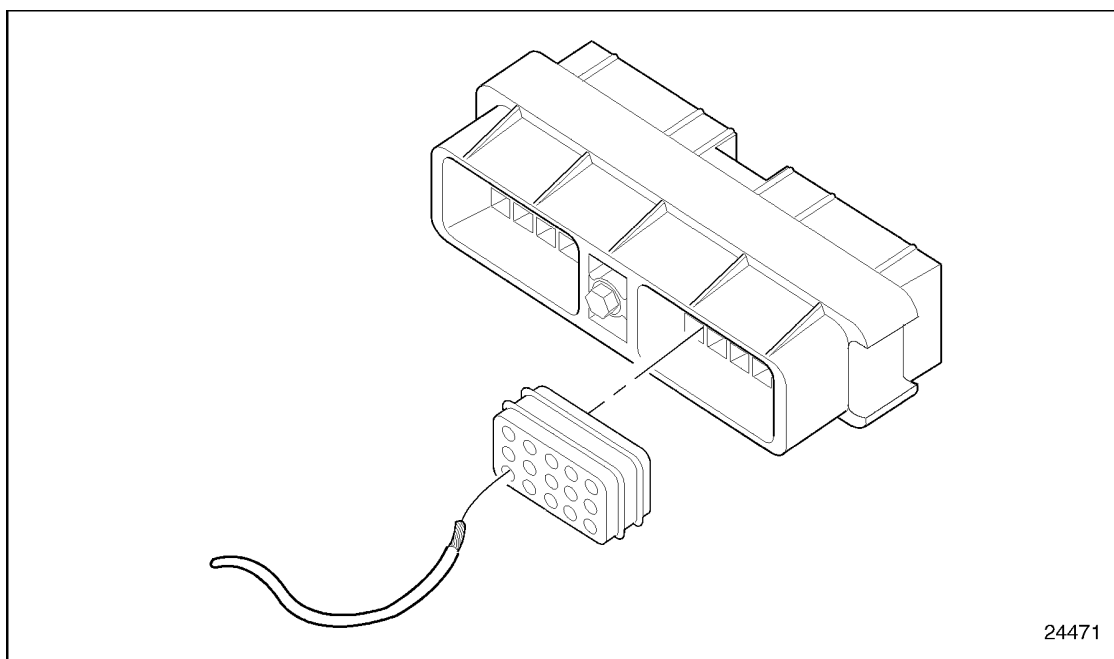

Figure 8-20 Inserting Wire Connector
1. Push the cable through the correct cavity of the seal and connector. See Figure 8-20.